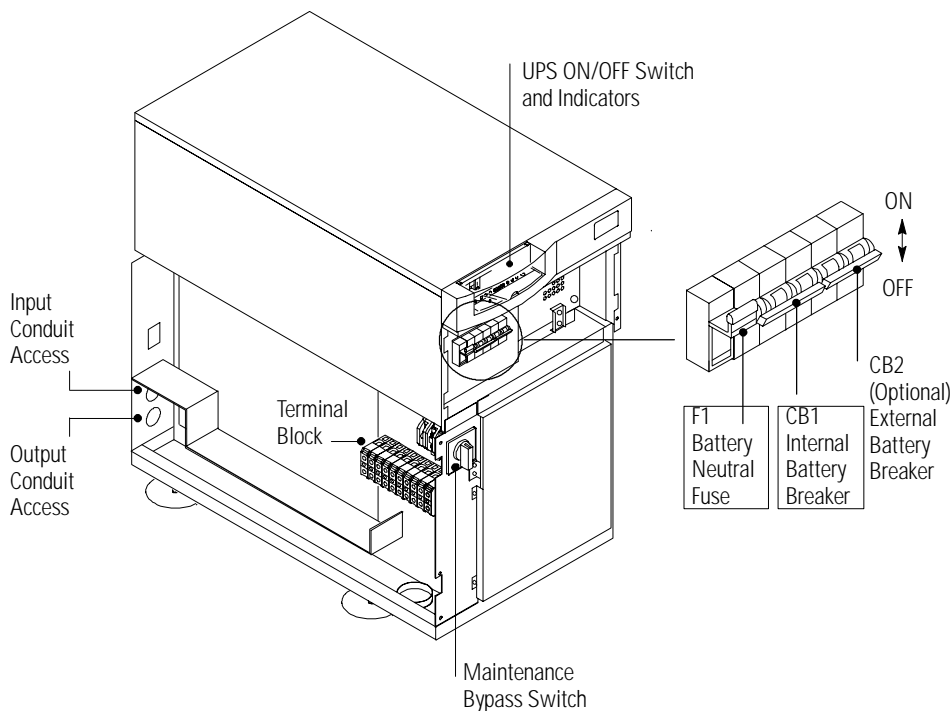
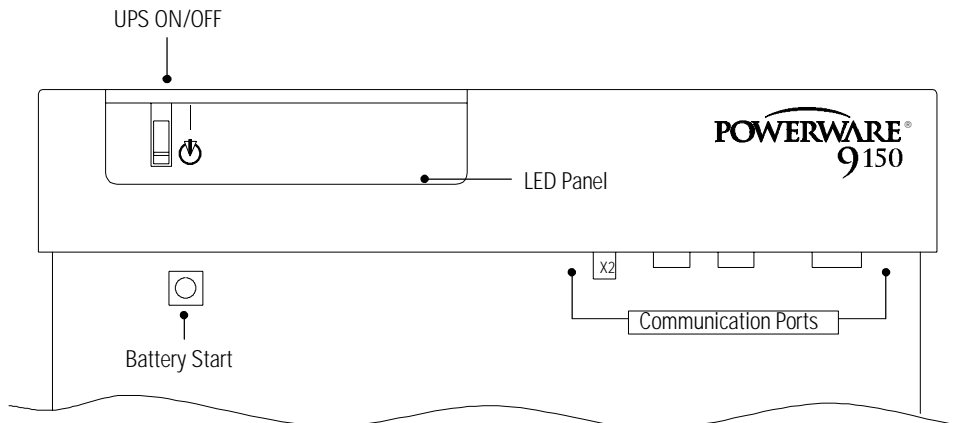
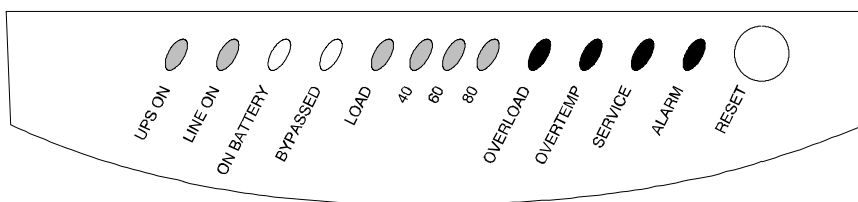

Figure 6. UPS Front and Side View
Figure 14. Powerware 9150 Control Panel
Figure 15. LED Panel
6. Verify that the UPS battery breaker CB1 and optional CB2 are in the OFF position (see Figure 6).
1. If the UPS is operating, turn the Maintenance Bypass switch to the BYPASS position and turn off the UPS ON/OFF switch (the  position). See Figure 6 on page 23.
Verify that UPS installation has been carried out correctly and the UPS ground has been connected. Figure 6 on page 23 and Figure 14 on page 39 show the location of the switches and breakers.
5. Press the Battery Start pushbutton below the UPS control panel (see Figure 14 on page 39) and hold for approximately five seconds.
The control panel contains the UPS ON/OFF switch, the Battery Start pushbutton, and the LED panel. The control panel shows the status of the operation and generates an audible alarm (see Figure 14). The LED panel contains the UPS indicators and the RESET pushbutton (see Figure 15).